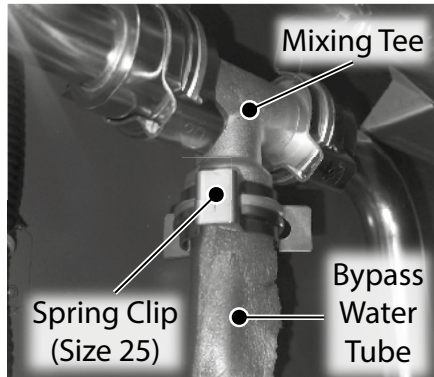

Figure 4 - Remove spring clip from bypass water tube
- 15** Locate the mixing tee and bypass water tube as shown in Figure 4. Remove the spring clip (size 25) securing bypass water tube to bypass valve and mixing tee. Place spring clip aside in a safe place for reinstallation.
- Locate the new mixing tee and three (3) O-rings provided in the kit. Install the two (2) large O-rings (21.8 x 2.4) to mixing tee. Remove and replace the one (1) small O-ring (15.5 x 2.5) on the bypass water tube (mixing tee side). See Figure 4 for location of bypass water tube.